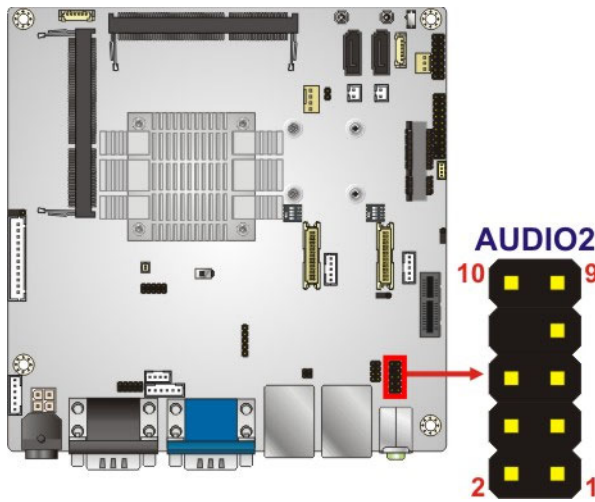

Figure 3-5: Audio Connector Location
- CN Location:** See **Figure 3-5**